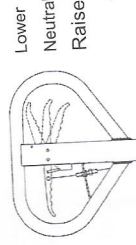

Fig. 10: Lever
If necessary, you can adjust the lever according to following steps (fig. 10):
- c) If the forks do not descend when the control handle is in the **Lower** position, turn the adjusting nut clockwise until raising the control handle lowers the forks. Then check the **Neutral** position according to fig. 10 and be sure that the adjusting nut is in the proper position.